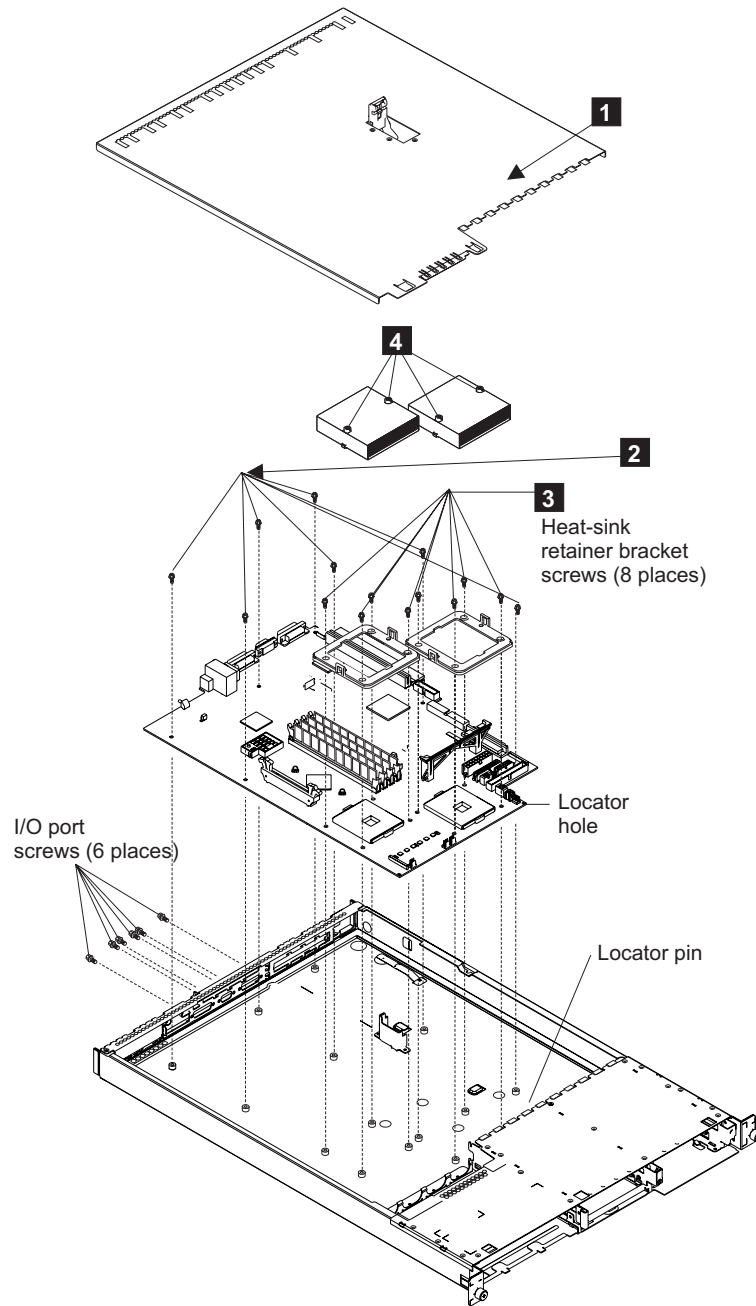

Figure 54. Removing the system board
3. Remove the top cover of the SAN Volume Controller **1**. See Figure 54 on page 185.